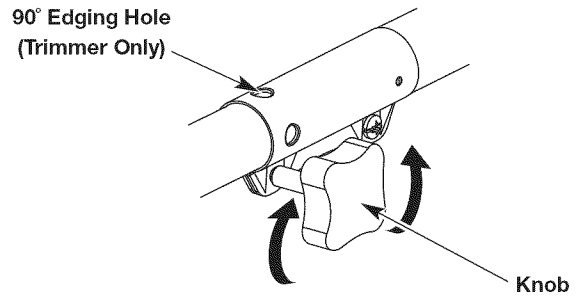
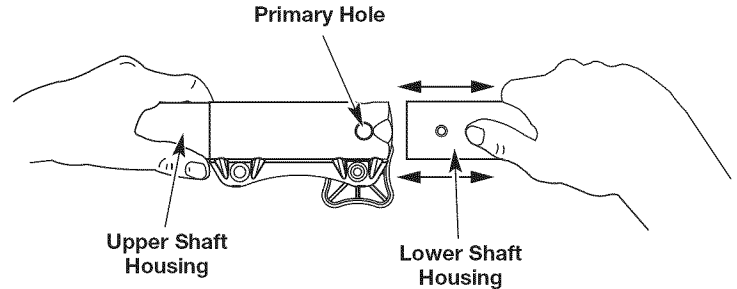

Fig. 1
Fig. 3
1. Turn the knob counterclockwise to loosen (Fig. 1).
2. While firmly holding the attachment, push it straight into the coupler until the release button snaps firmly into the primary hole (Fig. 3).
3. Turn the knob clockwise to tighten (Fig. 1).
CAUTION: Before operating the unit, make sure the release button is fully snapped into the primary hole (Fig. 3) and the knob (Fig. 1) is securely tightened.
For decorative edging with a string trimmer attachment, lock the release button into the 90° edging hole (Fig. 1).
3. While firmly holding the upper shaft housing, pull the attachment straight out of the coupler (Fig. 3).